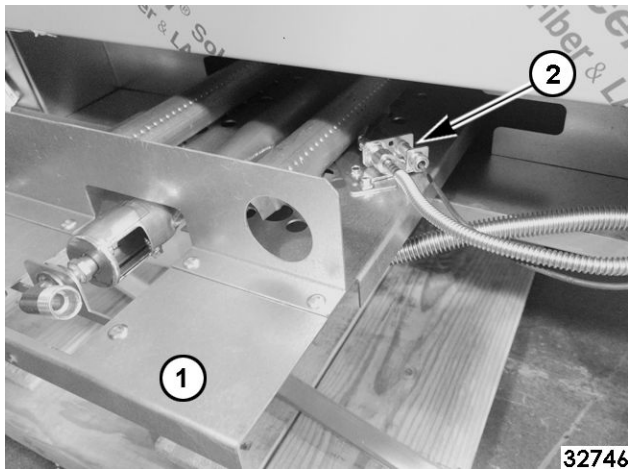

Fig. 54
6. Lift and pull burner drawer box (1, Fig. 54) out from oven until pilot burner is accessible.
8. Pull burner out and disconnect pilot gas tubing and thermocouple (2, Fig. 54).